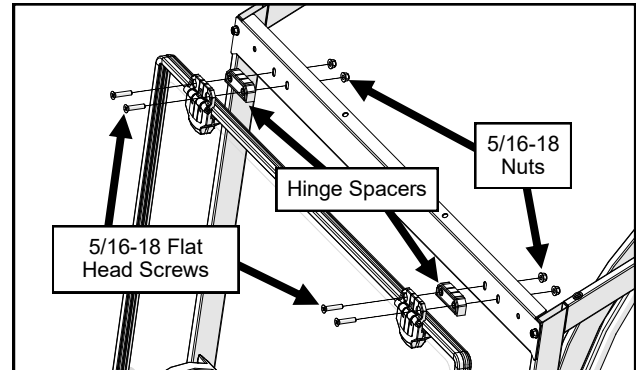

Fig. 11.2 (Attach Windshield)
- 11.2** With assistance, set the windshield up to the side frames and secure it to the windshield support using the hinge spacers and hardware. See Figure 11.2. Leave hardware loose.